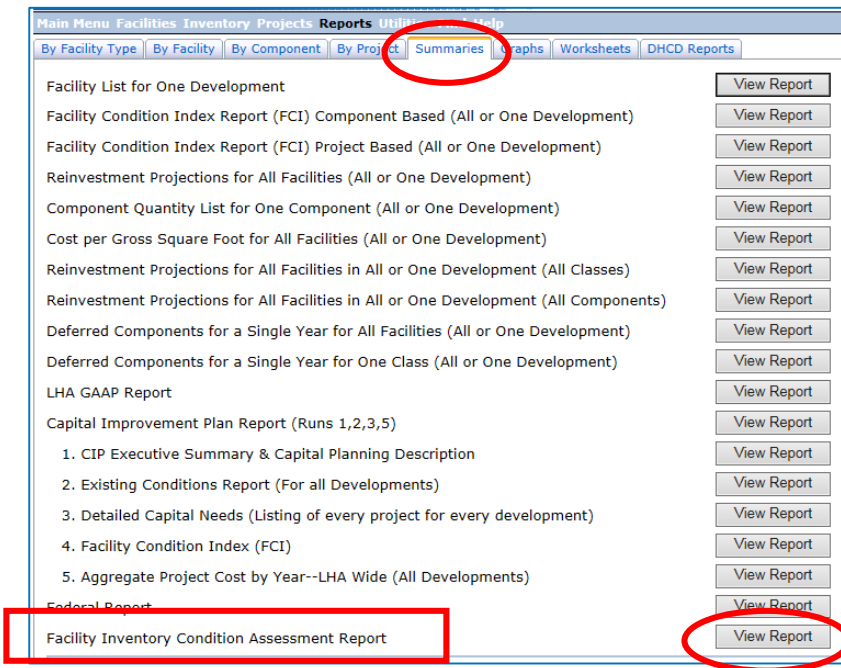
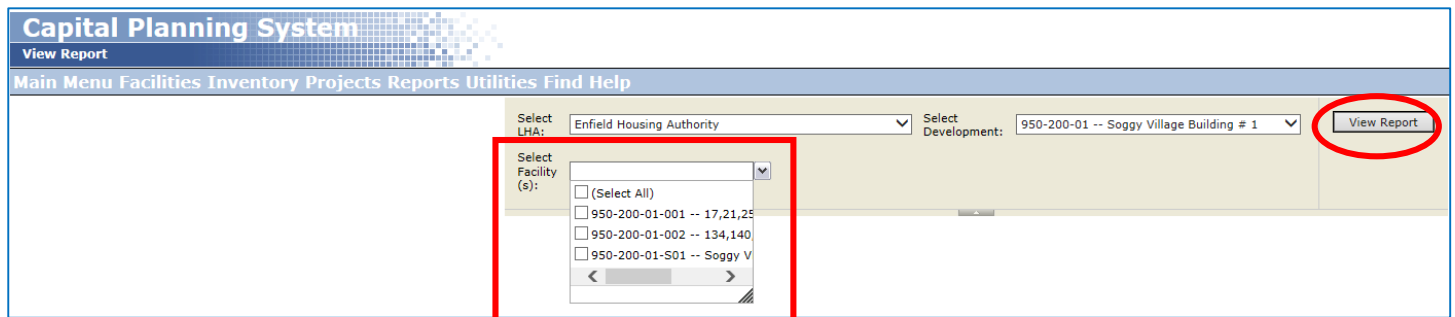
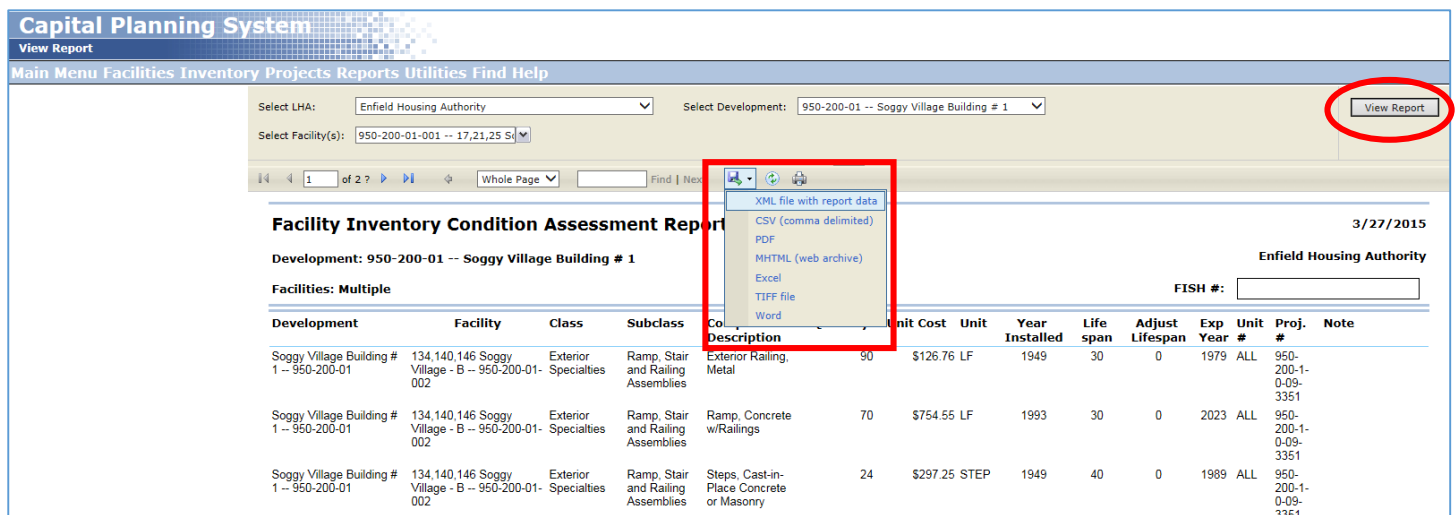

Figure 3
Figure 4
Figure 5
4. **New “Facility Inventory Condition Assessment Report”** – Located in the “Reports” section of the CPS in the “Summaries” tab (Figure 3) this report show complete listing of all of the specific inventory for all of their facilities to use for maintenance and capital planning purposes. The report can be run for one facility at one development or multiple facilities at multiple developments or all facilities at all developments and can be exported as a PDF or Excel document (Figure 4 & 5). To view the report click the “View Report” button (Figure 3). This will bring up pick lists for the user to choose the parameters of the report (Figure 4). Once the parameters are chosen click the “View Report” button to bring up the
report (Figure 4). If you want to export the report to PDF or Excel click the file icon  and choose the PDF or Excel selection and then click the “View Report” button. (Figure 5) (Note: if the report is exported as an Excel document it may require some formatting in Excel in order to print it out)